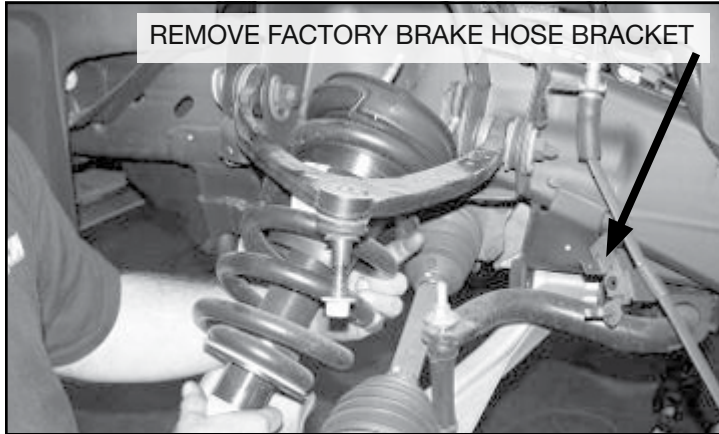

FIGURE 6 - STEP 6
6. Remove the shock assembly and save with the hardware. Remove and discard the factory brake line bracket from the brake hose that attached the hose to the upper control arm. **SEE FIGURE 6**